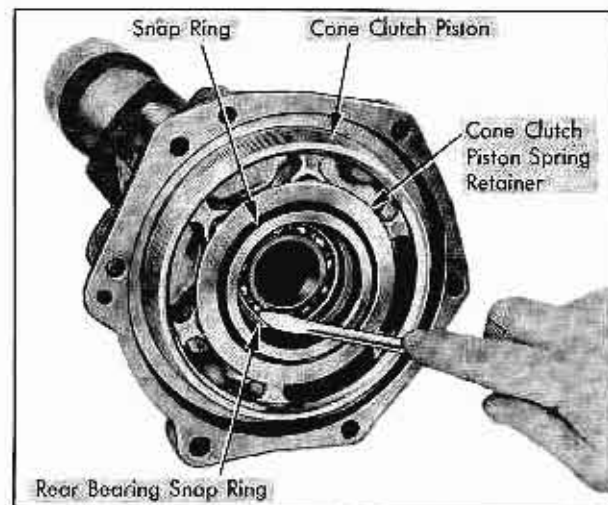

Fig. 14-36 Removing Rear Bearing Snap Ring
7. With screwdriver, remove snap ring locating ball bearing in rear bearing retainer. Fig. 14-36.